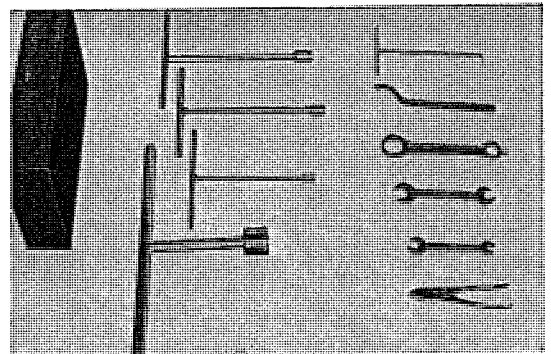

Fig. 4.24 Tools required for disassembly and assembly of steering stem and handlebar lock
1. Tools required for disassembly and assembly of the steering stem and handlebar lock. (Refer to Fig. 4.24)